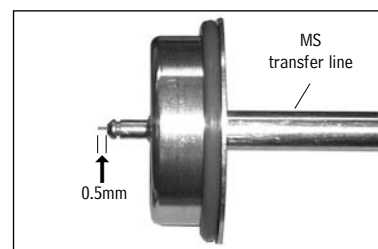

Figure 2
6. Cut the fused silica transfer line approximately 0.5mm from the tip of the MS transfer line (Fig. 2).